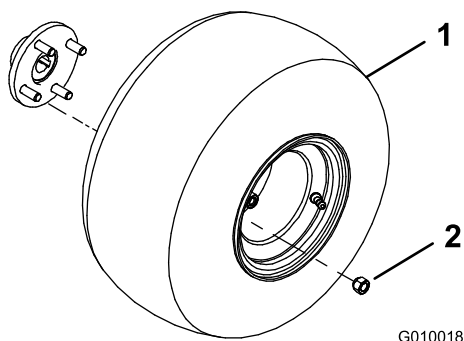

Figure 3
2. Mount a wheel assembly onto each rear wheel hub (Figure 3).
3. Install the lug nuts (Figure 3) and tighten them to 61 to 75 N·m (45 to 55 ft-lb).